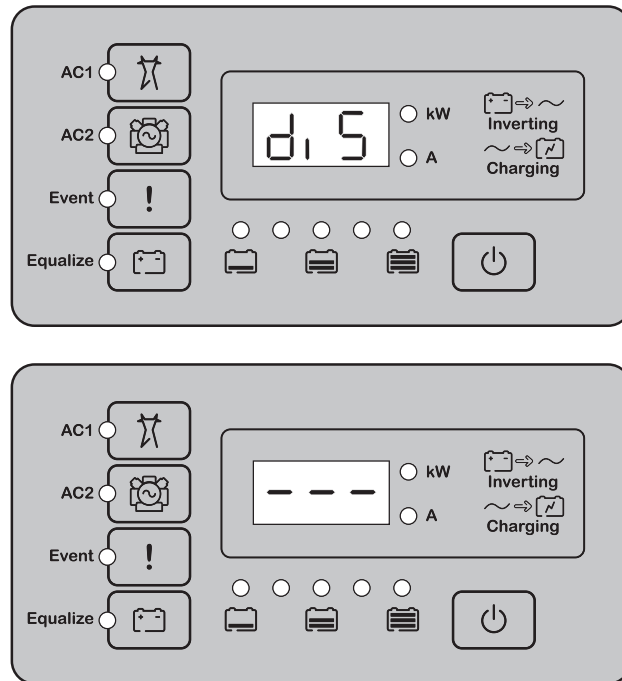

Figure 3-18 Transition to disabled mode
- ◆ On the inverter information panel, simultaneously press the STARTUP/SHUTDOWN button and the Equalize button. The Conext XW+ is now disabled, and **d15** (disabled) is briefly displayed on the inverter information panel, followed by "---" (as shown in Figure 3-18).